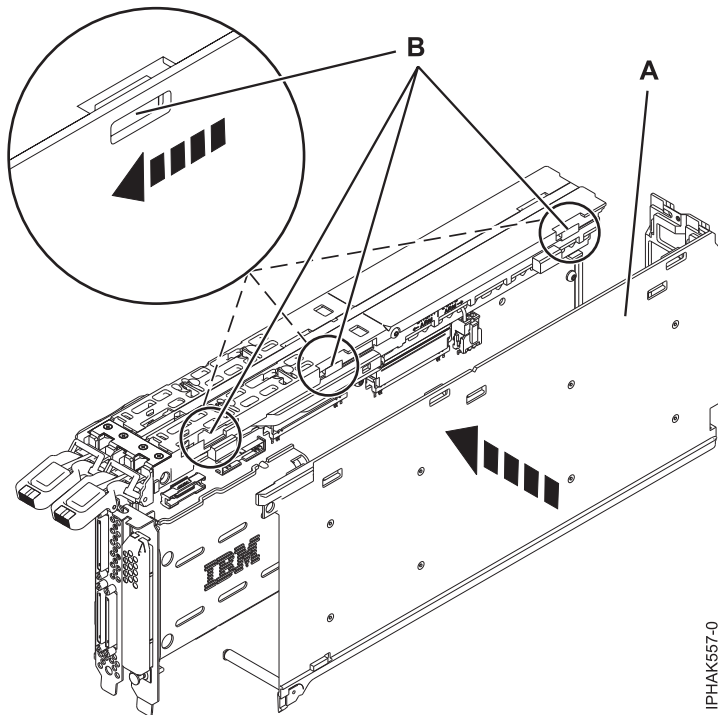

Figure 58. Installing the cover
6. Install the cover: See Figure 58 on page 75.